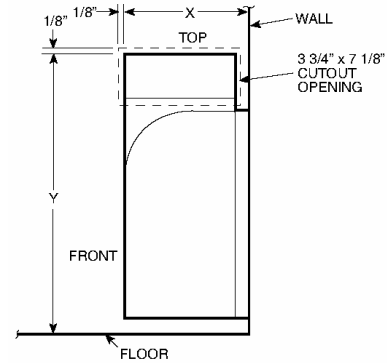

Fig. 9 — Side View Showing Measurements for Extension Opening
2. Measure and cut $3\frac{3}{4}$ in. x $7\frac{1}{8}$ in. opening through adjacent wall. See Fig. 9.